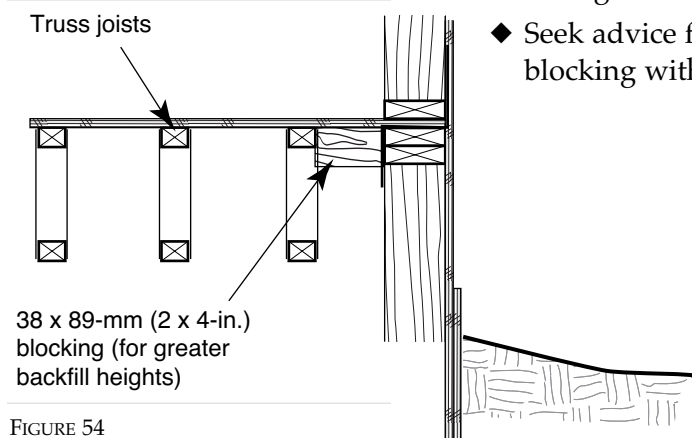

FIGURE 54
- ◆ Extend end walls so that the top plate is level with the top of the floor trusses. For greater backfill heights, provide 38 x 89-mm (2 x 4-in.) blocking to help transfer loads from the wall to the top chord of the truss (see Figure 54).